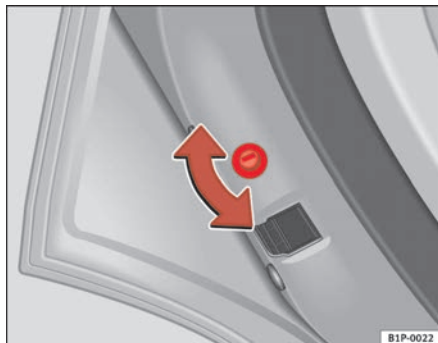
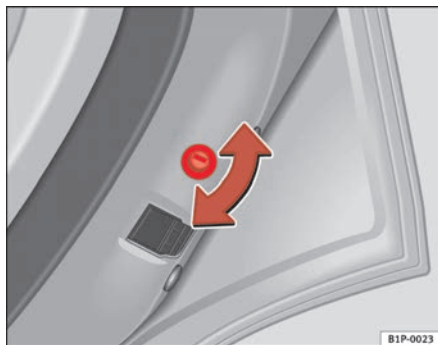

Fig. 60 Child safety lock on the left hand side door
Fig. 61 Child safety lock on the right hand side door
- With the door open, rotate the groove in the door using the ignition key, clockwise for the left hand side doors, and anti-clockwise for the right hand side doors ⇒ fig. 60, ⇒ fig. 61.
- With the door open, rotate the groove in the door using the ignition key clockwise for the right hand side doors and anti-clockwise for the left hand side doors ⇒ fig. 60, ⇒ fig. 61.